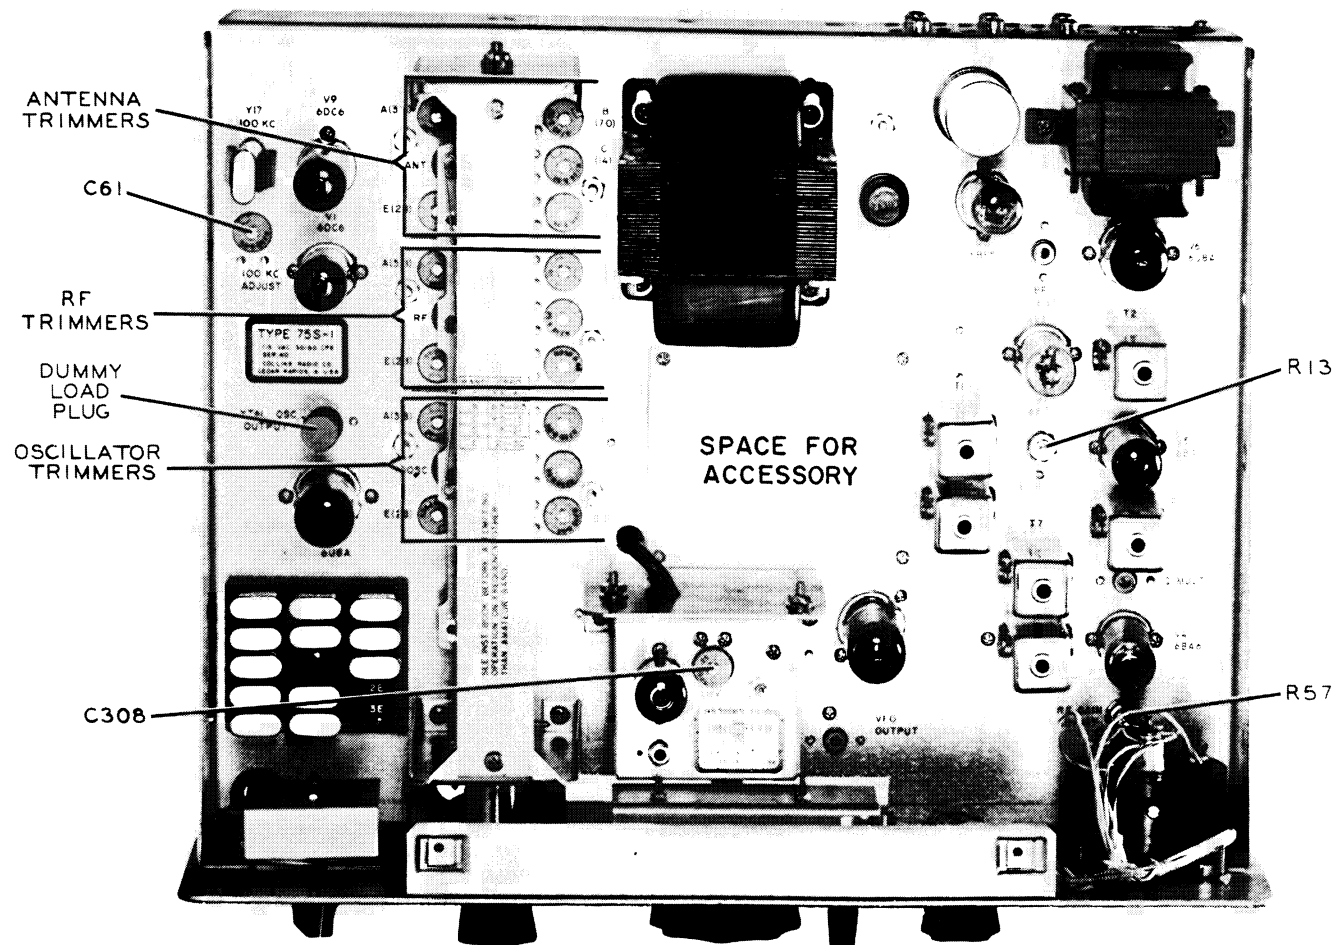

Figure 4-1. Location of Adjustments
4.4 ALIGNMENT PROCEDURE. (Refer to figure 4-1.)
4.4.3 R-F CIRCUIT ALIGNMENTS. (Refer to figure 4-1 for trimmer identification.)
a. Set both (A) 3.8 RF and ANT trimmer capacitors so the large notches point straight to the rear of the chassis. Set the (A) 3.8 OSC trimmer so its large notch points at V1. Leave tuning dial set at 100 for the following steps.
e. Adjust (A) 3.8 OSC tuning slug for maximum output on vtm.
f. Adjust (A) 3.8 RF and ANT slugs for peak S-meter indication.
h. Adjust (E) 28 OSC trimmer for peak vtm indication.
i. Adjust (E) 28 RF and ANT trimmers for peak S-meter indication. Adjust signal generator output level as necessary to keep S-meter indication at S-3.